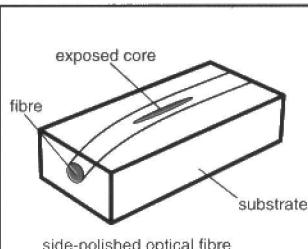
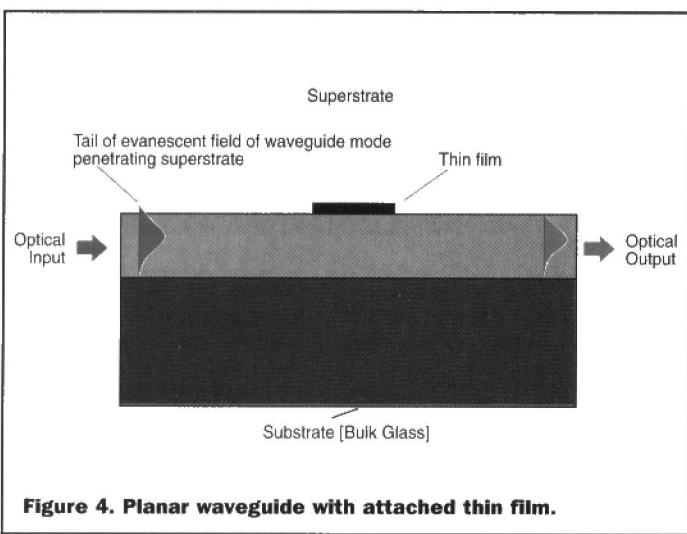

Figure 3. Side-polished optical fibre.
Figure 4. Planar waveguide with attached thin film.
The sensitivity of total internal reflection spectroscopy of a fibre to changes in sample environment depends critically on the field penetration at the overlayer. To control this interaction, the fibre core is exposed by polishing (see Figure 3) and to enhance the field interaction further, the length of core exposed may be increased. The polishing process produces a flat surface on an otherwise curved fibre, which is desirable for thin film and chemical deposition. Unfortunately, the polishing process is quite labour intensive and time consuming, which is a serious limitation in the mass production of devices. Thus, planar waveguides (refer to Figure 4) offer the advantages of inherent surface flatness, long path length and direct access to the exposed waveguide 'core' in the surface of the glass.
**Evaporation** – a thin film of appropriate thickness, such as metallic silver, may be evaporated either directly onto the waveguide (see Figure 4) or onto a second 'sandwiched' layer, previously deposited on top of the waveguide.